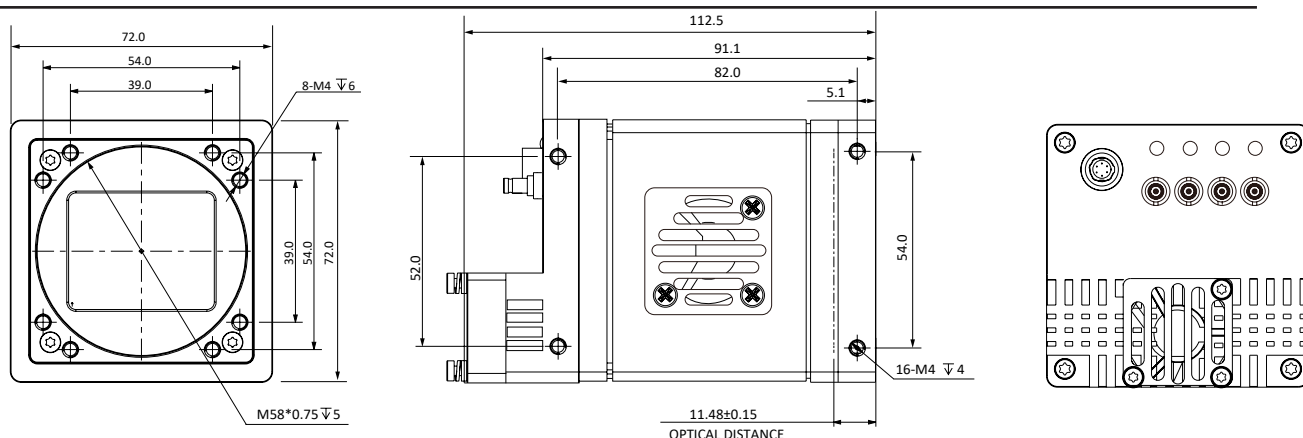

Fig. 1-8: Mechanical Dimensions (in mm) for Cameras with 72 \* 72 \* 91.1mm housing (M58 interface).
- Fig. 1-8: Mechanical Dimensions (in mm) for Cameras with  $72 \times 72 \times 91.1$ mm housing (M58 interface).